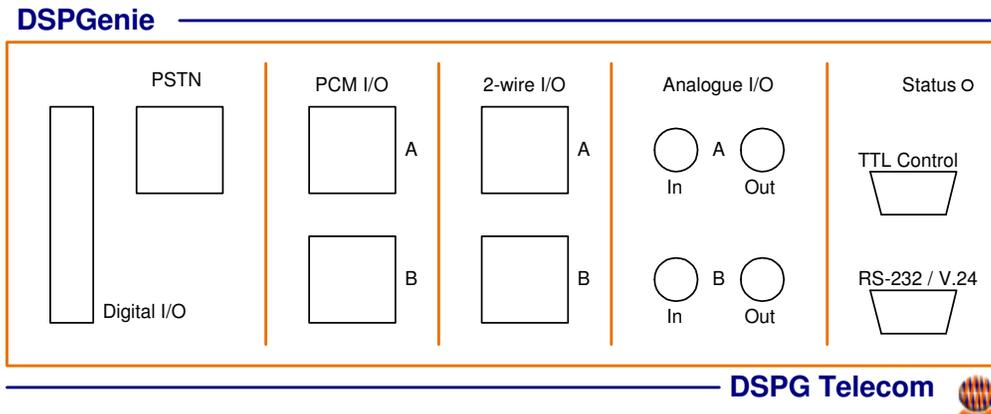

Figure 21. DSPGenie TNE front panel
- Front panel connectors DSPGenie TNE variant, see Figure 21 below